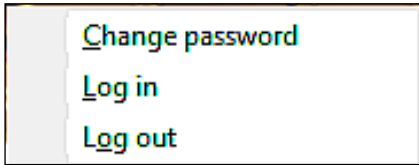

Figure 7. The Login pop-up box for password-protected user accounts
When you are logged in with a password-protected user account, the Login pop-up box (accessed by right-clicking the User rights status bar field) will include an option to change your password (see Figure 7). Click this option if you wish to modify the existing password. The system will prompt you to enter the existing password, then the new password, two times, for confirmation.
2. Click **Log out** in the pop-up box (see Figure 7). In the 'By level' user login scheme, your access level will automatically revert to Operator.
① *In the 'By user name' user login scheme, Administrator- and Service-level users can set up new user accounts.*
① *In the 'By user name' user login scheme, whenever a user logs off the system, another user must be logged on. In this login scheme, the user software is non-operational unless someone is logged in.*